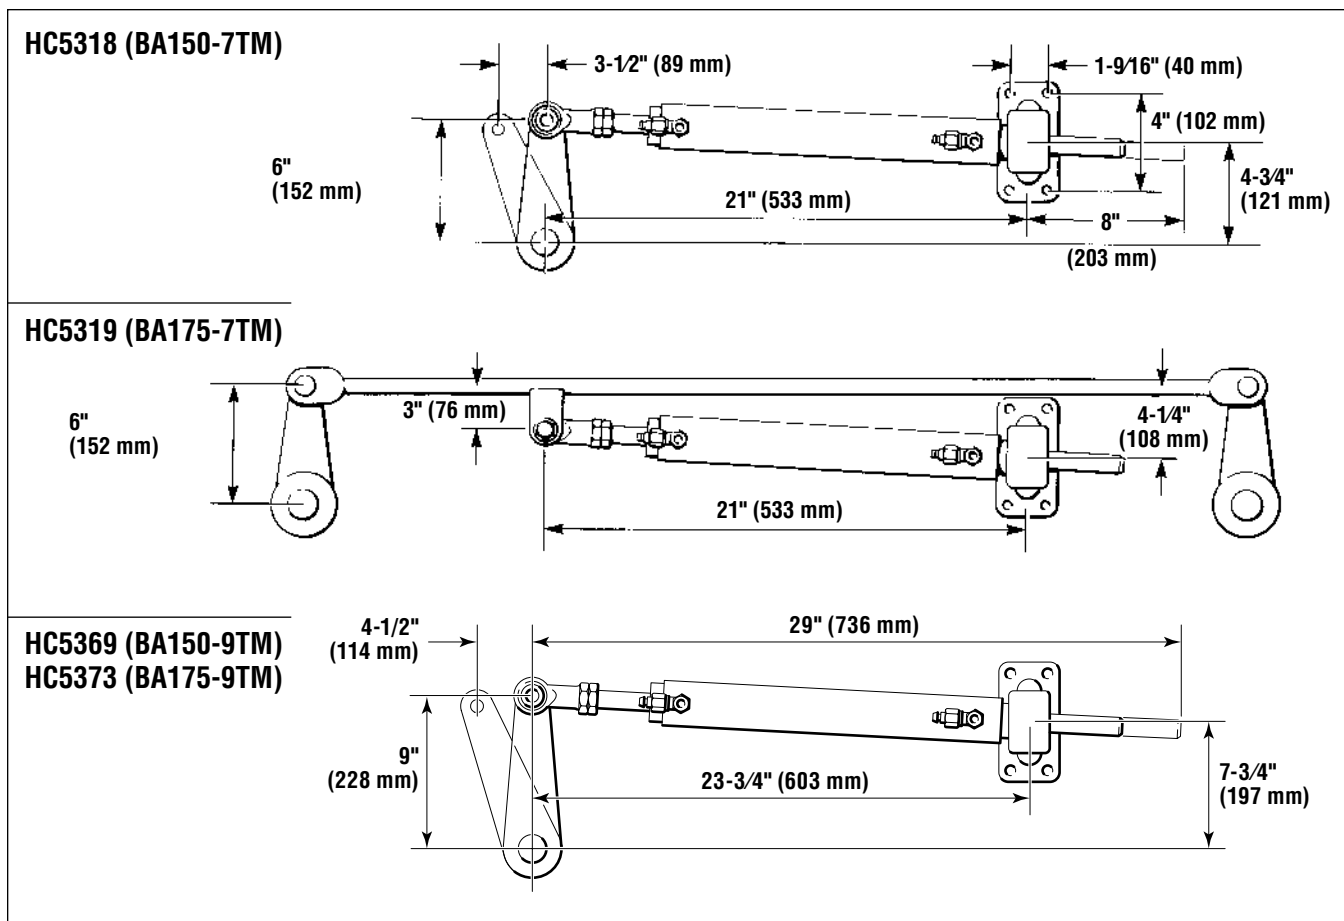

Figure 8.
4. Extend cylinder rod to arrive at 21" (533 mm) or 23-1/4" (591 mm) from center of rod end ball joint hole to the center of the mounting foot. See figure 8.